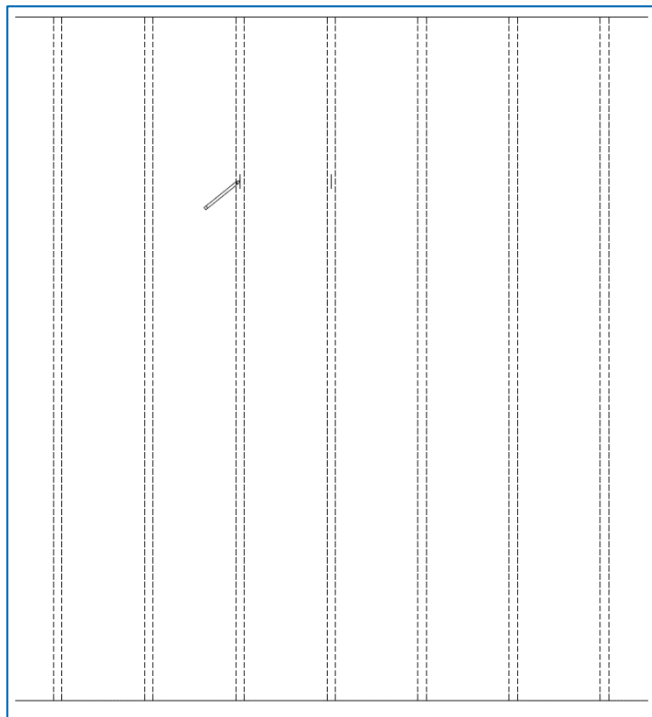

Figure 1
- Locate and mark all the studs that you will use for installing the cabinets (figure 1)